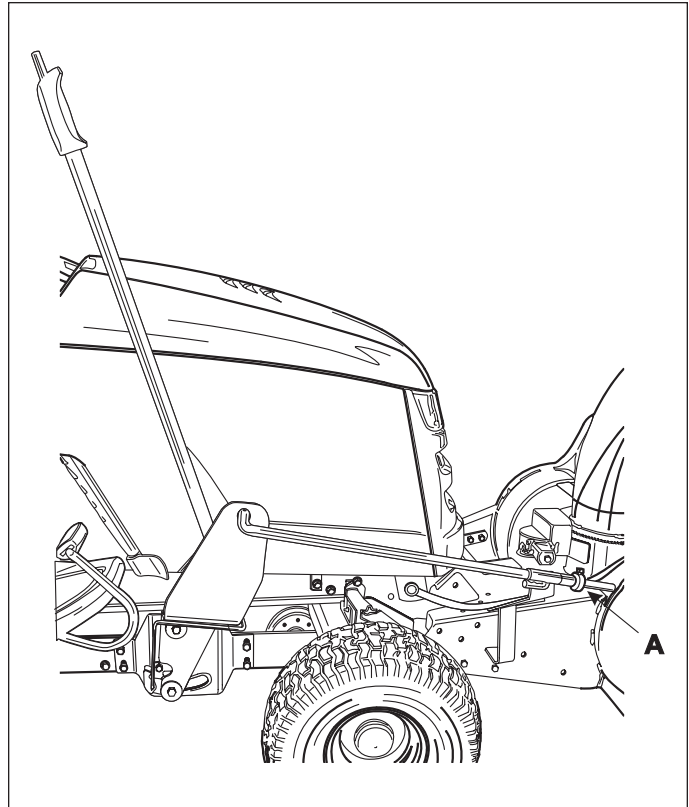

Figure 5. Height Adjustment Collar
2. Lower the snow thrower and adjust the front set collar (A, Figure 5) to achieve the correct lift height.